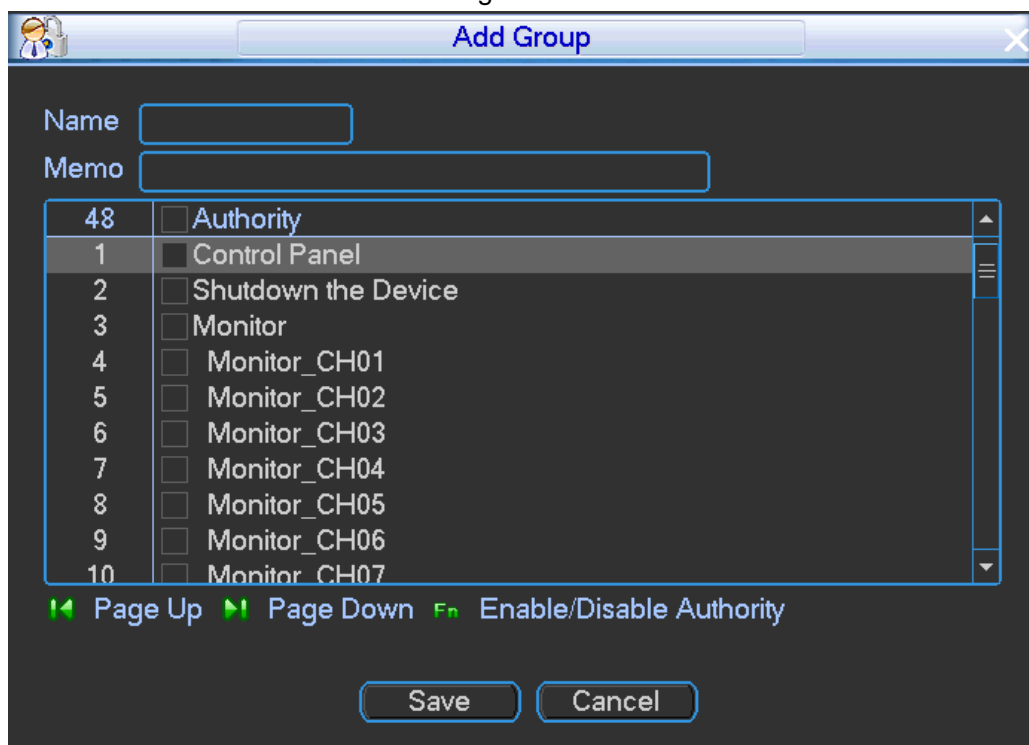

Figure 4-69
Step 1 From main menu->Setting->System->Account->Group, click add group button, the interface is shown as below. See Figure 4-69.